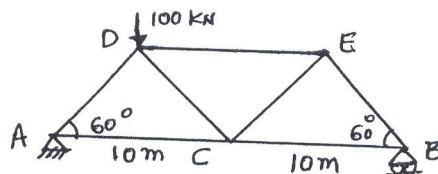

Fig.Q4(c)
c. Determine the vertical deflection of joint 'C' of the truss shown in Fig.Q4(c) using unit load method. Area of the inclined members 1300 mm^2 and other members area 1000 mm^2 . $E = 2 \times 10^5 \text{ N/mm}^2$.